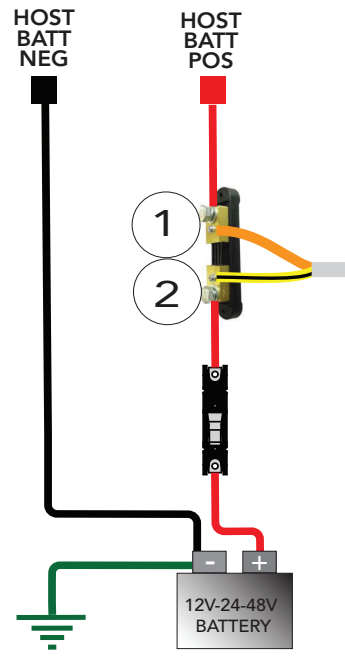

Figure 5-2. Positive Leg Shunt
If installing the shunt on an ungrounded conductor (see Figure 5-2 below), install a fuse or breaker to protect the circuit from a short between the shunt terminals and grounded equipment.
**B. Positive Leg Installation** (see Figure 5-2 below). For a system with a shunt(s) in the positive leg, connect the yellow/black stripe (twisted-pair) wire to the battery side of the shunt, and then connect the other end to the A(2) or B(2) ReadyShunt terminal.